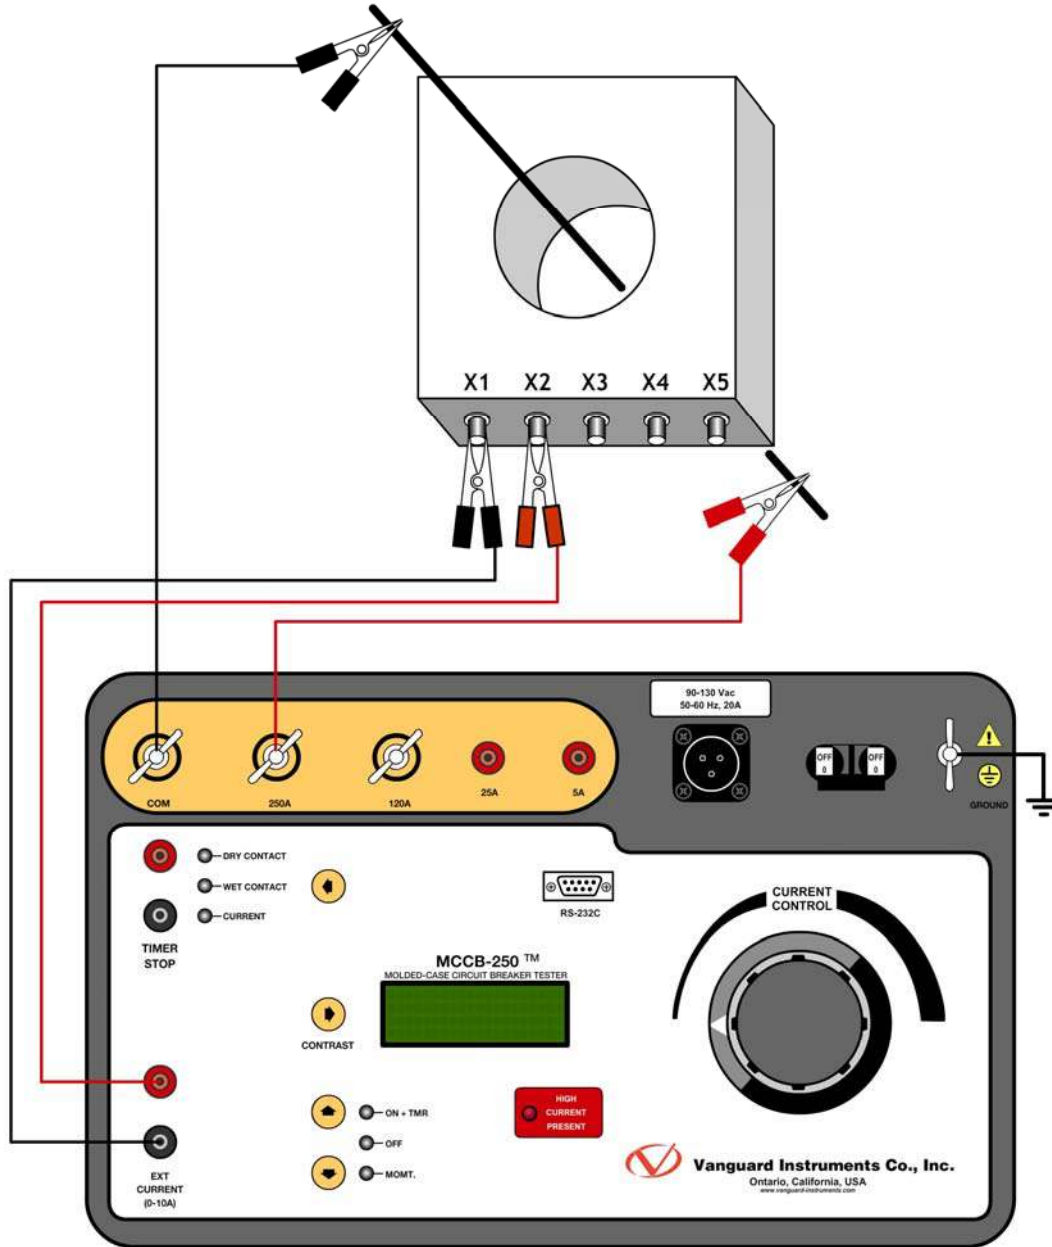

Figure 4. Typical Current Transformer Current Ratio Test Connections
Figure 4 shows a typical connection of the MCCB-250 to a current transformer. In this configuration, the MCCB-250 injects a test current through the CT primary. The CT secondary current is sensed by the MCCB-250's **[EXT CURRENT]** input.
- b. Connect the Current cables from the MCCB-250 to the bus (CT primary) as shown in Figure 4.
- c. Connect the CT secondary winding to the MCCB-250 **[EXT CURRENT]** input as shown in Figure 4.